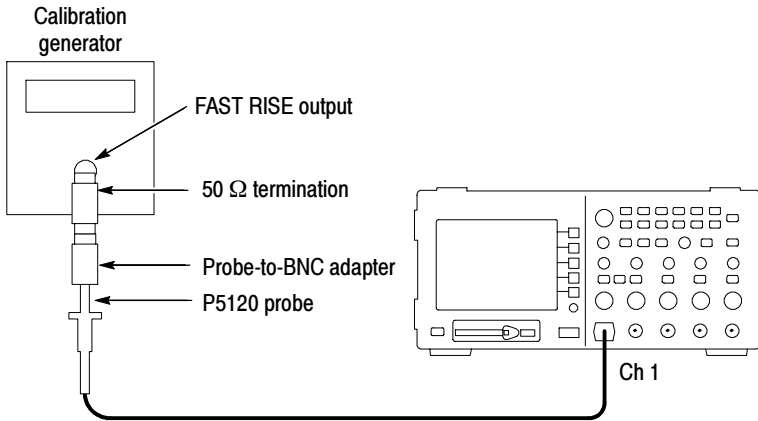

Figure 7: HF compensation setup
1. Connect a 50 Ω feedthrough termination to the positive-going **FAST RISE** output of the calibration generator. See Figure 7.